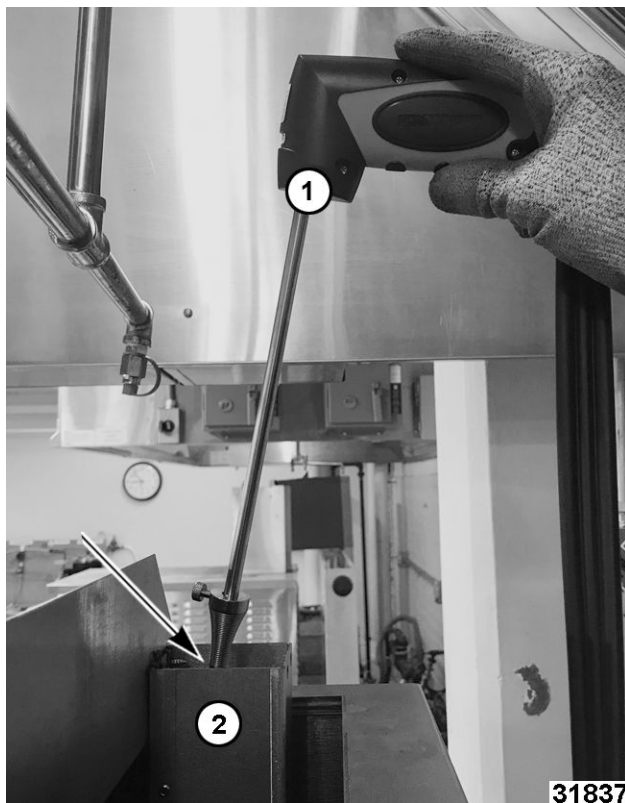

Fig. 3
A. Insert analyzer (1, Fig. 3) into exhaust flue (2, Fig. 3) as shown.